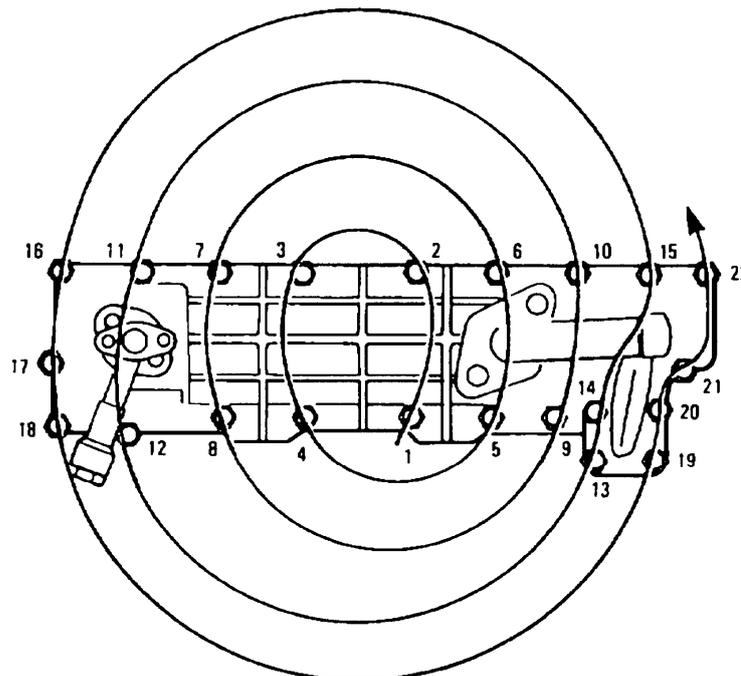

Figure 52 Oil Cooler Tightening Sequence
- ddd.** Place a new gasket on the oil cooler cover and locate the oil cooler on the engine block. Install the retaining bolts and tighten them to 21 to 30 N.m (15 to 22 lbf.ft) in the sequence shown in Figure 52.